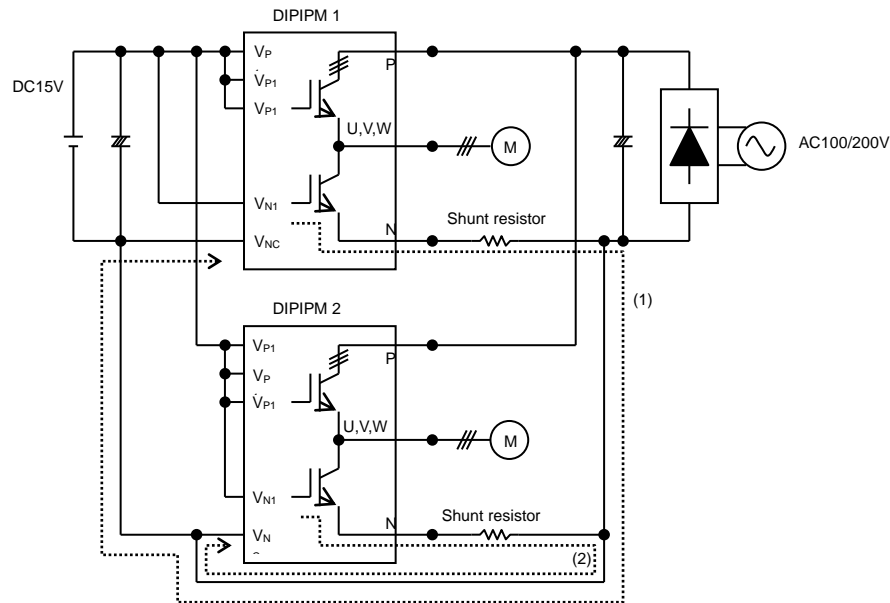

Fig.3-1-14 Parallel operation
Fig.3-1-14 shows the circuitry of parallel connection of two DIIPMs. Route (1) and (2) indicate the gate charging path of low-side IGBT in DIIPM No.1 & 2 respectively. In the case of DIIPM 1, the parasitic inductance becomes large by long wiring and it might have a negative effect on DIIPM's switching operation. (Chare operation of bootstrap capacitor for high-side might be affected too.) Also, such a wiring makes DIIPM be affected by noise easily, then it might lead to malfunction. If more DIIPMs are connected in parallel, GND pattern becomes longer and the influence to other circuit (protection circuit etc.) by the fluctuation of GND potential is conceivable, therefore parallel connection is not recommended.